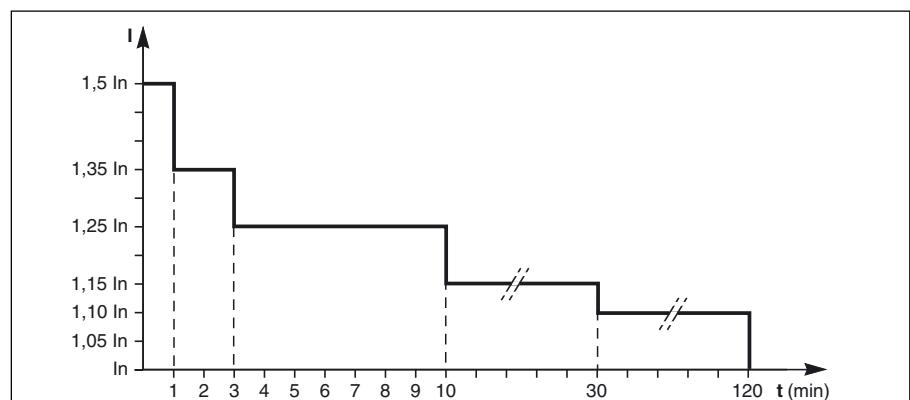

Fig. 14
- in the event of a small but extended overload (i.e. a continuous level of power exceeding the full rated load), the inverter will continue to supply power for a period depending on the magnitude of the overload (10 minutes for a 125% overload, 1 minute for a 150% overload). See the overload curve in figure 14;
- light (4) goes off,
- light (3) shines green,
- if the overload is less than 1.65 In , the remaining inverters support the overload (see curve in figure 14), and the load is transferred to the bypass AC source;
- the light (4) goes off,
- the light (3) goes on and turns green,